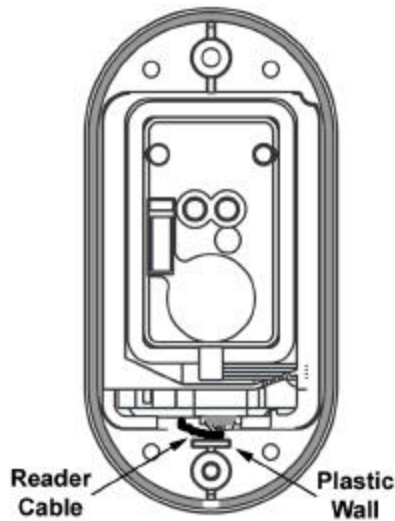

Figure 2-24 – Reader Cable Dressing
- 2.12.2.4 Dress the Reader Cable so that a minimum of cable is left on the front side of the reader and that all of the Reader Cable is above the Plastic Wall (Figure 2-24). This insures that the Reader Cable will not interfere when mounting the Reader Cover.